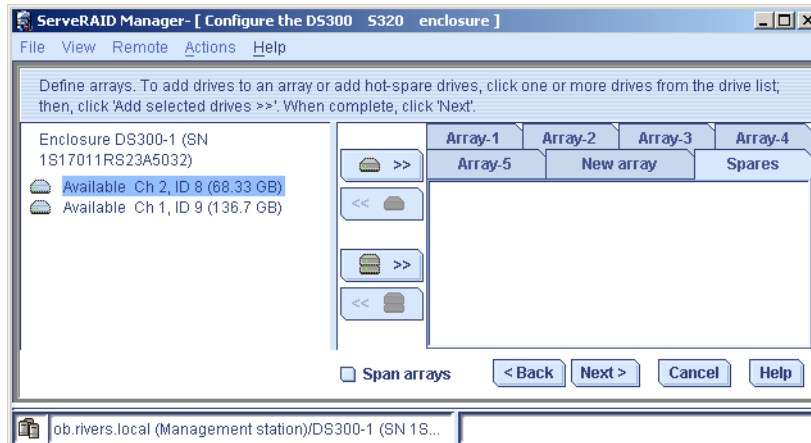

Figure 4-65 Spares tab without hotspare drives
10. Click the **Spares** tab to create a global hotspare. See Figure 4-65.